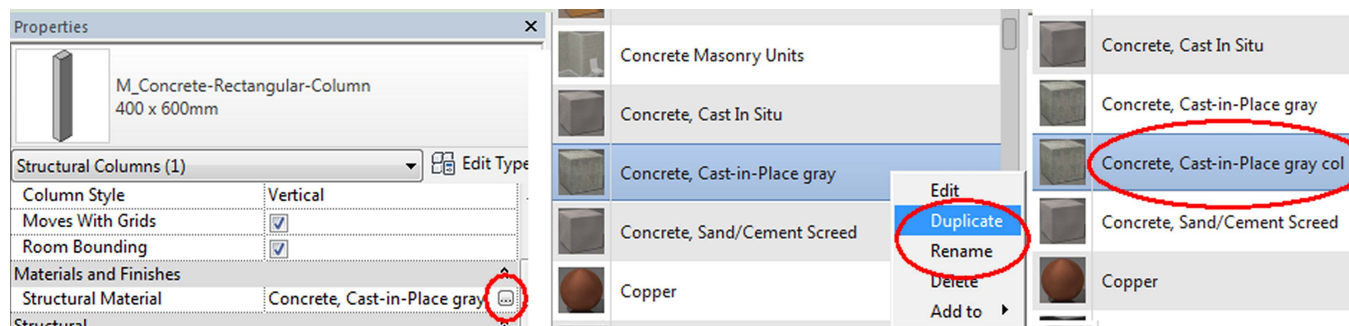

Fig. 2.6 – Material for Columns
3. Properties Palette → Structural Material (Concrete, Cast-in-Place gray). Click on  (Fig. 2.6).